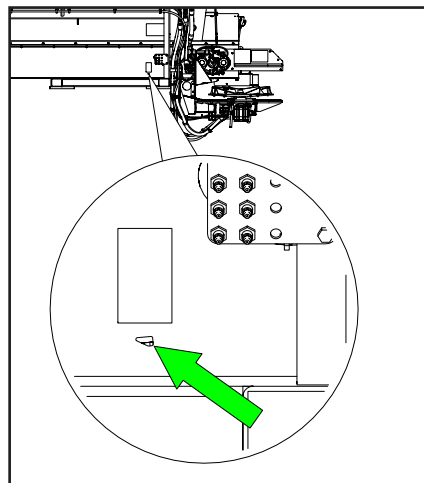
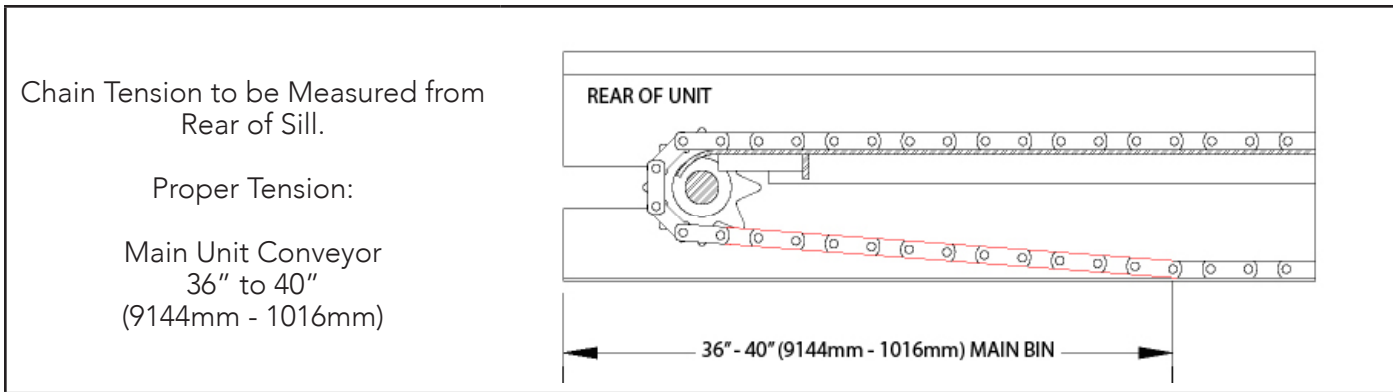

Figure 2A
Figure 3 - Chain Tension
Proper chain tension is a factor in chain and sprocket life. Measuring from rear of unit, top of chain should appear between MIN and MAX lines in sight window (Figure 2A), and conveyor should touch bottom sill flange at 36" - 40" (91 - 102cm) mark as shown in Figure 3.
- Make sure belt connecting pin is positioned correctly as shown in Figure 3.